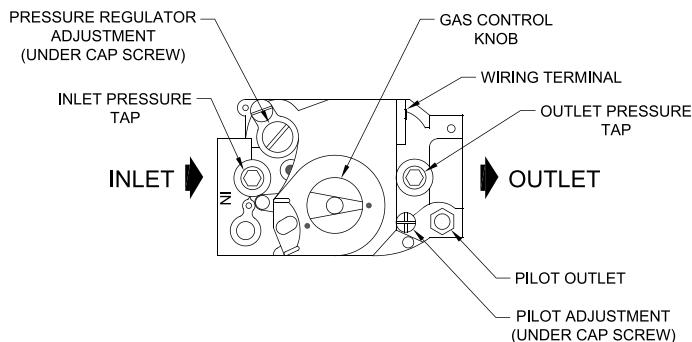

Figure 10-2: Top View of Gas Valve
- B. PURGE AIR FROM GAS PIPING by loosening (or removing) "Inlet Pressure Tap" plug on gas valve (See Figure 10-2). Tighten (or replace) plug when you start to smell gas. Adequate ventilation must be provided and no smoking or open flame permitted.
- A. Install manometer on 1/8 in. outlet pressure tap on gas valve (see Figure 10-2). Use of shutoff valve between manometer and gas valve can prevent pressure surge that blows out manometer fluid.